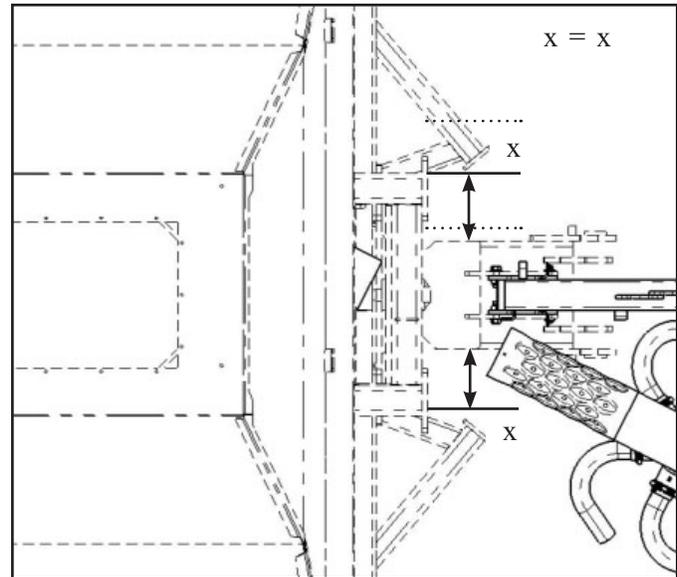

Figure 1
- Verify the front hitch is centered (straight) and front axle is level, (unit is parked on level ground). See *Figure 1*.